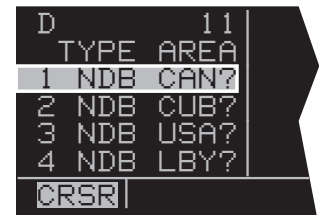

Figure 3-52
3. Press **ENT**. The Duplicate Waypoint page will be displayed on the left side (figure 3-52). At the time of this writing, there were ten waypoints in the database having the identifier "D". As in this example, if there are more than four waypoints having the same identifier, only the first four are initially shown. The list includes an NDB in Canada, an NDB in Cuba, an NDB in the United States, and an NDB in Libya. The cursor will be over the first waypoint listed. They are listed with the waypoint closest to the aircraft's present position displayed first and the waypoint farthest from the aircraft displayed last. To view the rest, rotate the left outer knob clockwise. Doing so will move the flashing cursor over waypoints two, three, and four and then will cause the waypoint list to "scroll" so that the other waypoints in the list may be seen. To select the desired waypoint, move the cursor over the appropriate choice (figure 3-53).